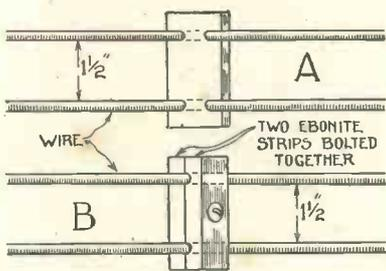

Fig. 5.—Two Methods of Insulating Leads.
The arrangement shown in Fig. 5 is hard to beat; it can be improvised from scraps of ebonite without much trouble. Here the two leads are held apart by ebonite spacers, the distance between leads is not of great account; 1 1/2 in. to 2 in. will be ample. The spreaders may be either plain strips of ebonite with two holes at each end (A), or they may be clamps, as at (B).